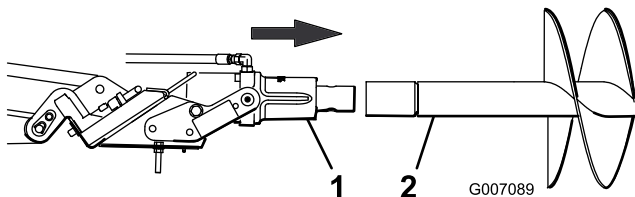

Figure 4
6. Maneuver the drive shaft into the end of the auger shaft or extension (if applicable) (Figure 4).